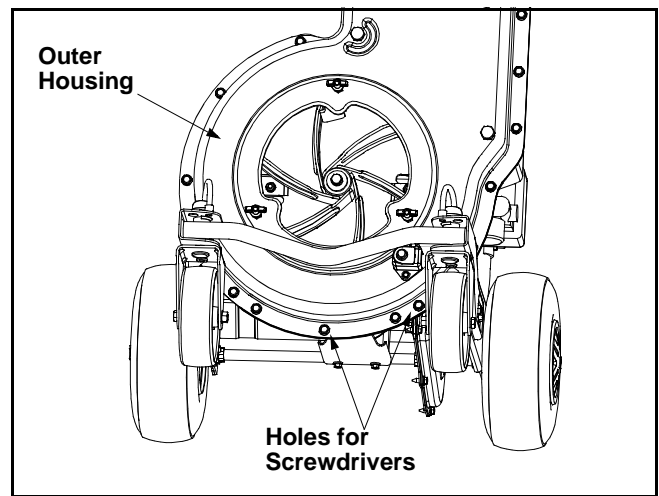

Figure 17
- Place the outer housing against the inner housing. Insert two screwdrivers into the holes to hold the blades in place while attaching the outer housing. See Figure 17.